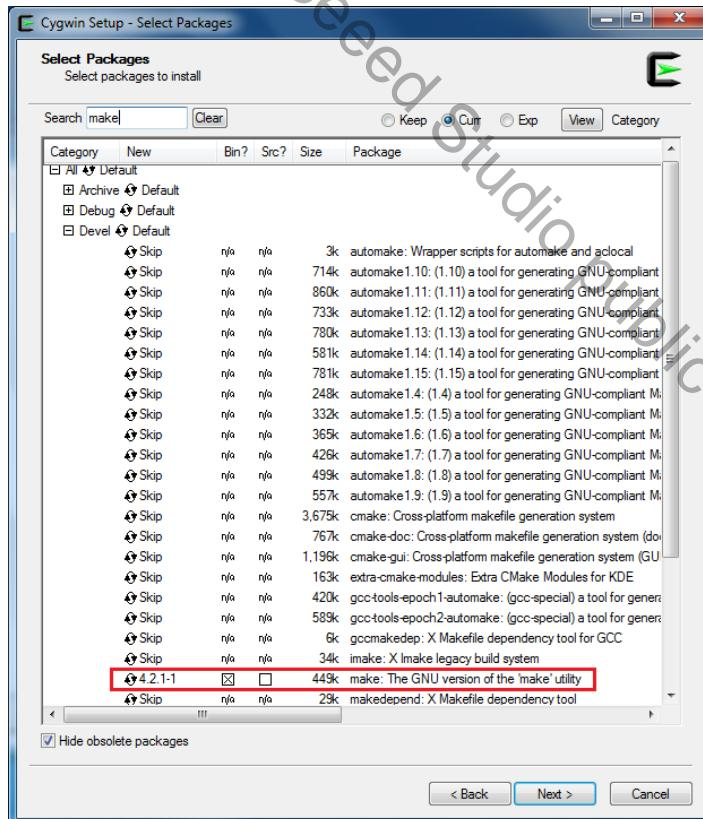
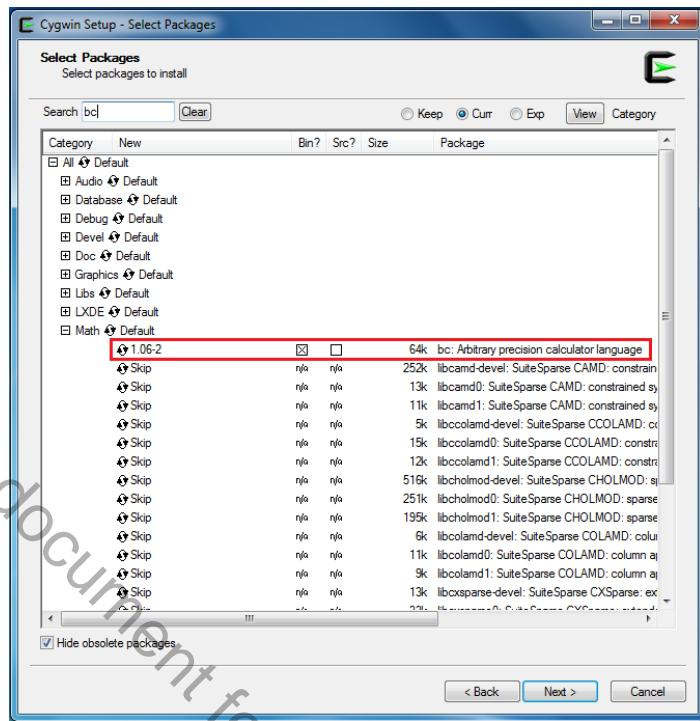

Fig 1-1 ‘Devel’ setting during Cygwin installation
Fig 1-2 'Math' setting during Cygwin installation
- During the installation of Cygwin package, include ‘Devel->make’ and ‘Math->bc’ utilities on the **Select Packages** step, as Fig 1-1 and Fig 1-2 shows.